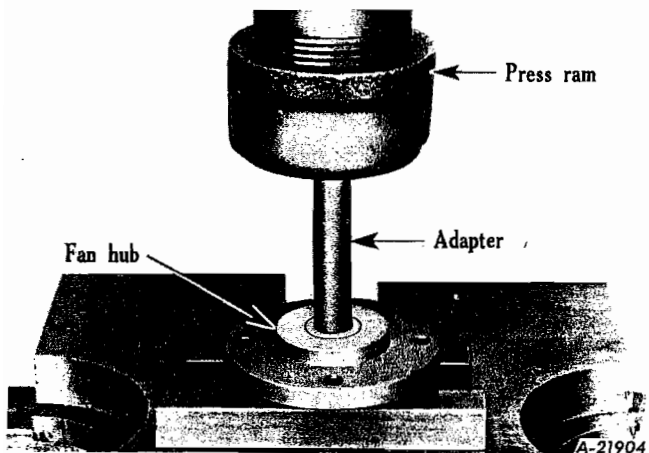

Fig. 36
- Place shaft assembly in press and press fan hub from shaft (Fig. 36). Do not attempt to remove bearing or slinger, as they are factory installed on the shaft in the proper location.